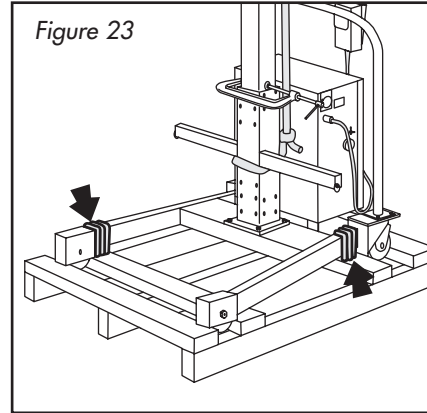

Figure 23
1. Cut the tie-down ropes holding the LifTILTruk to the pallet. (Figure 23)